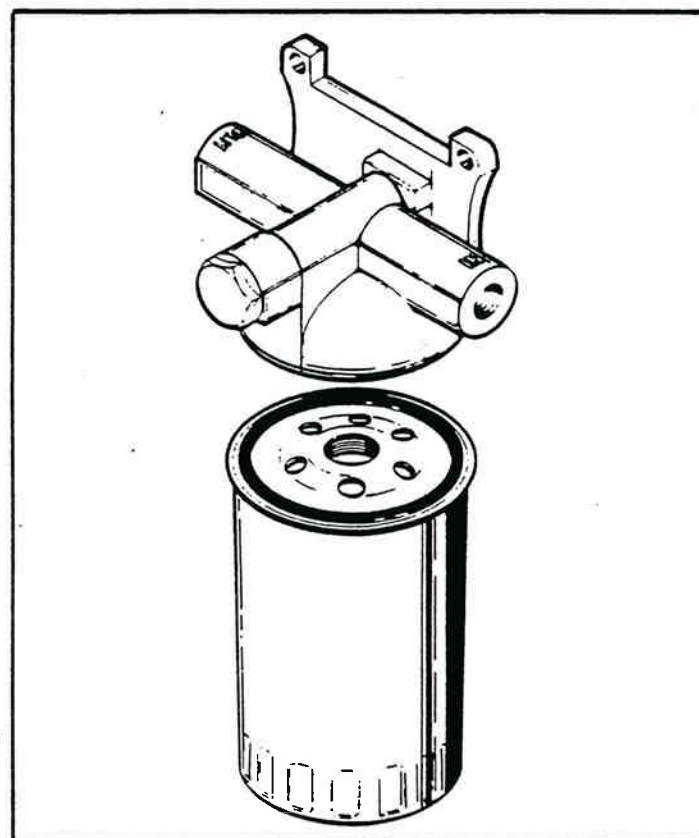

Figure 13-187. Automatic Transmission Filter.
1. Remove filter element by rotating counterclockwise. (See figure 13-187.)